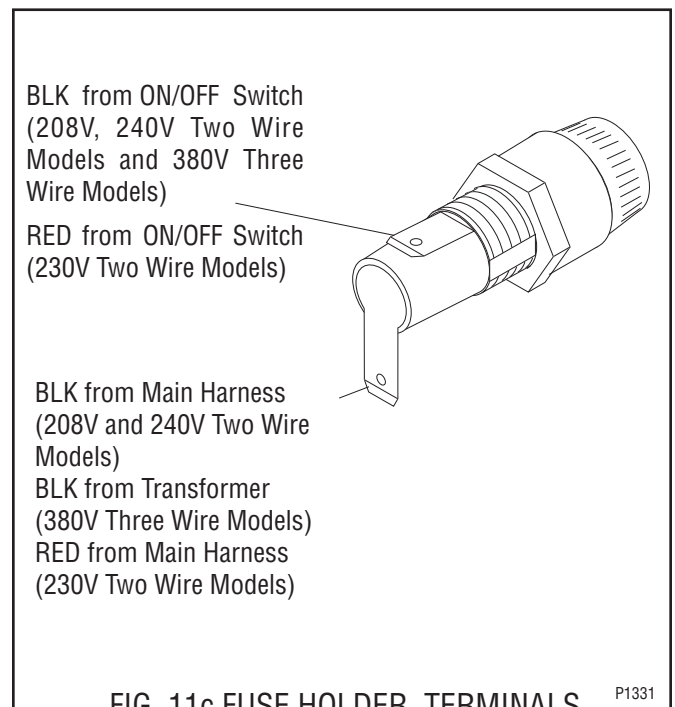

FIG. 11c FUSE HOLDER TERMINALS
5. Refer to Fig. 11c and reconnect the wires.